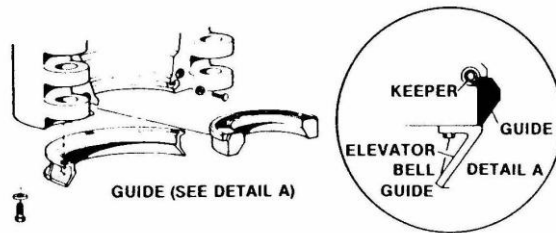

Figure 5B. Elevator Bottom Guide Installation
5. Install guide halves and retain with guide keepers and bolts (Figure 5B).